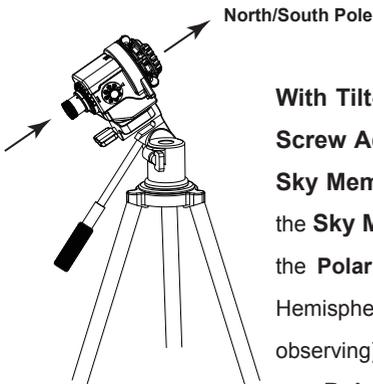

Fig8
**With Tilt-head/ Ball-head:** Make sure the **1/4" to 3/8" Convert Screw Adapter** is in the 3/8" threaded socket at the bottom of the **Sky Memo S**. If it is not, use an Slot Screwdriver to install it. Mount the **Sky Memo S** to the quick release plate on the tripod. Then point the **Polar Scope** to the direction of the North Pole (For Northern Hemisphere observing) or South Pole (For Southern Hemisphere observing) (Fig 8). Then complete the polar alignment process (Please see **Polar Alignment** session for reference).